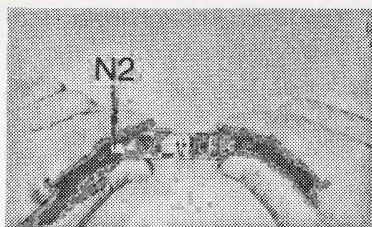

Fig. 10-22A.
As shown in Fig. 10-22A, always hold the keyway unit in your left hand with the keyway cam (N2) to the left and the V-grooved dividing strip facing you. Then as you insert the wafers (B), you will find the series wafers will only go in the elongated slot of the column. They should not be forced